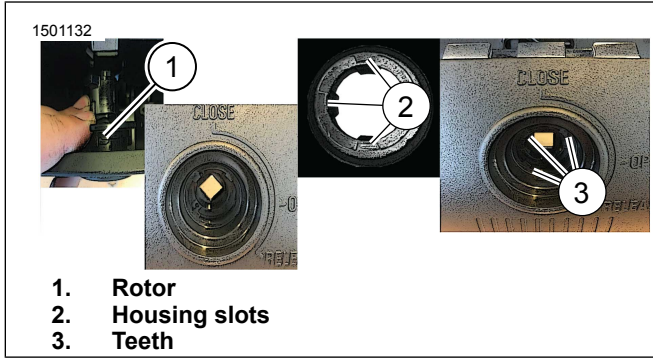

Figure 7. Housing
- Figure 7 Position rotor (1) by hand.
- Figure 7 Align three slots (2) on housing to three teeth (3) on release lever.